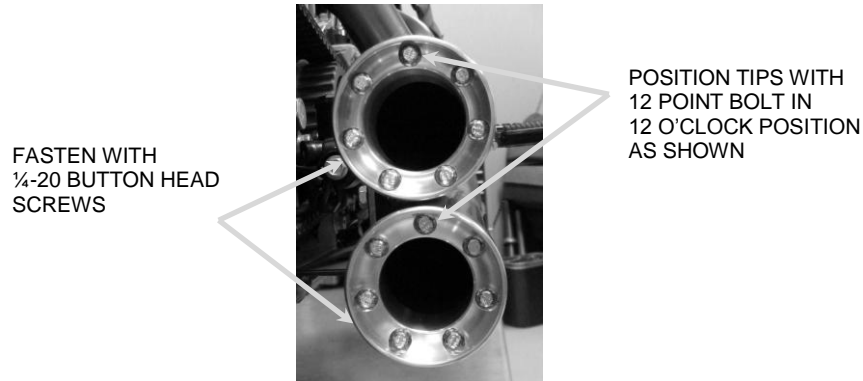

FIGURE 5
18. Align the tapped hole in the side of the billet tip with the hole in the heat shield and slide it into the heat shield. Be sure one of the 12 point bolts is in the 12 o'clock position. See **FIGURE 5**. (NOTE: If it is difficult to slide the tips into the heat shields loosen the clamps on the heat shields. Failure to do this may cause damage to the tips.) Fasten the tips with the supplied ¼-20 button head screws making sure there is no gap between the tip and heat shield when tightened.